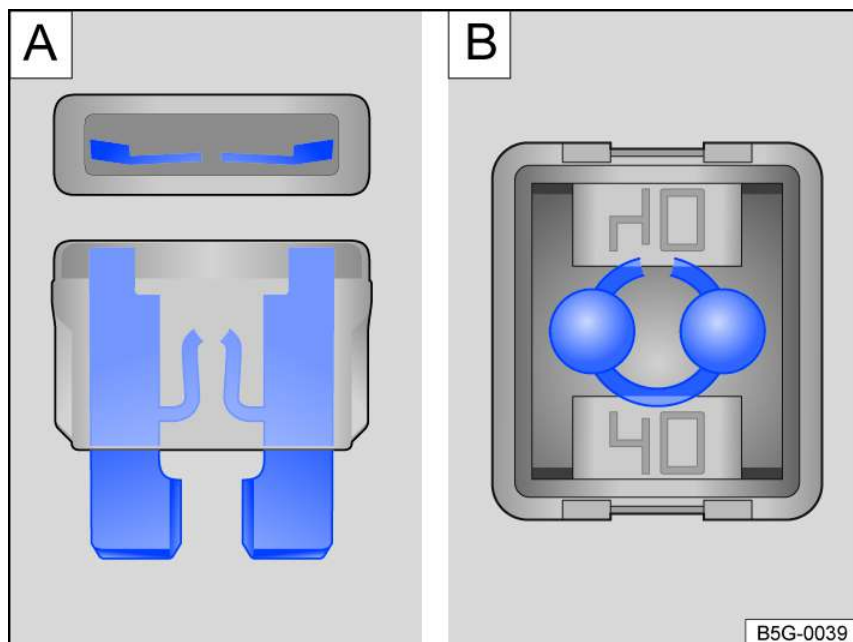

Fig. 131 Blown fuse (general example).
- A blown *flat connector fuse* (ATO®, MINI®) has metal strips that have burned through, which you can see through the transparent housing from above and from the side fig. 131 A.
- A blown *block fuse* (JCASE®) is recognizable by the melted metal strip seen through the transparent housing from above fig. 131 B.